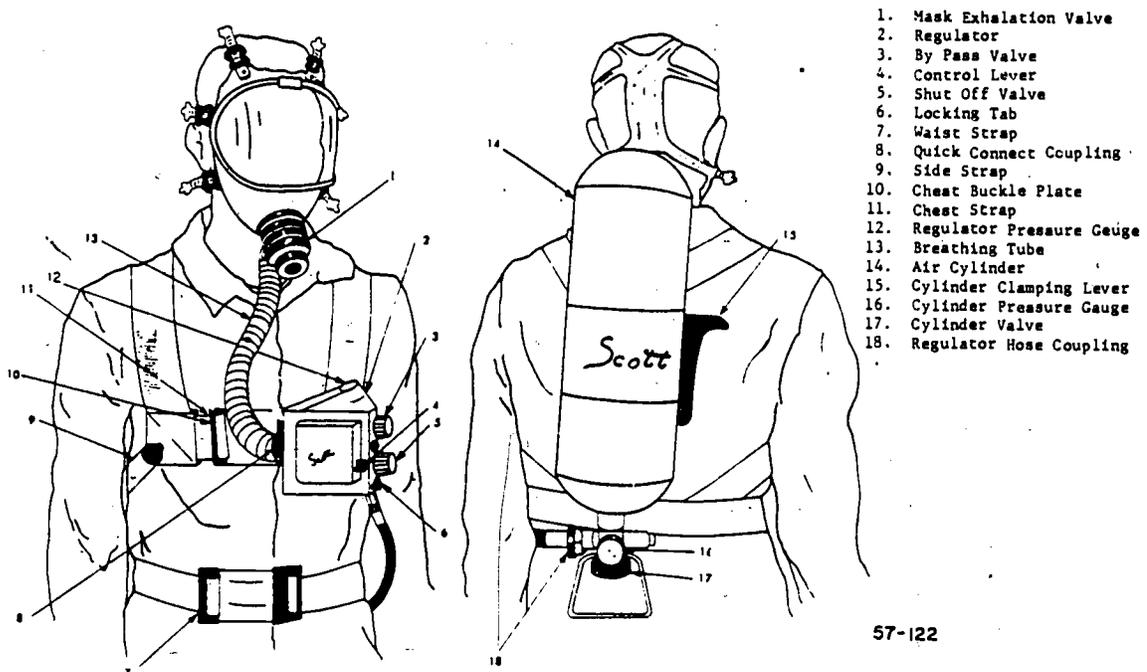

Figure 3-1. Self-contained breathing apparatus components.
This type of self-contained breathing apparatus provides safe breathing air to the user in toxic atmospheres, regardless of the concentration of toxin. It also supplies safe breathing air in an oxygen-deficient atmosphere. The apparatus (see fig. 3-1) consists of mask exhalation valve, chest strap, breathing tube, quick connect coupling, waist belt, side strap, locking tab, regulator shutoff valve, control lever, emergency bypass valve, regulator, regulator pressure gauge, regulator hose coupling, cylinder valve, cylinder pressure gauge, cylinder clamping lever, chest buckle plate, and the air cylinder itself. These components are common to all AF breathing apparatus and will vary in size and shape between makes and models.
1800 psi, it must be recharged. The pressure should never be higher than 1980 psi if the person charging the cylinder follows the charging instructions. When the cylinder meets this requirement, be sure that the cylinder valve (see fig. 3-3) is closed. If the valve is open, turn the handle clockwise to close it. Then release the pressure in the cylinder-to-regulator hose by opening the regulator bypass valve. (See fig. 3-1, item 3.) Close the bypass valve finger-tight after all the air has been bled off. Then check the regulator shutoff valve (fig. 3-1, item 5) to see that it is fully open and in the LOCKED position.
The regulator (fig. 3-1, item 2) of the compressed-air breathing apparatus is used to reduce the pressure of the air coming from the cylinder to a usable pressure at the facepiece. The demand-type regulator will not allow air to flow through the regulator until a slight vacuum is caused by the wearer's inhaling with the facepiece securely in place over his face. The regulator shutoff valve of the apparatus is usually in the LOCKED OPEN position for immediate use. The gage on the regulator (fig. 3-1, item 12) indicates how
Inspect the exhalation valve (fig. 3-1, item 1) for damage, obstructions, and test by operation as shown in figure 3-4.
Cylinder. Inspect the cylinder and related parts for damage and security. (See fig. 3-1, items 14, 15, 16, 17, and 18.)
Harness. Check the harness and backplate for condition, paying special attention to buckles/fastening devices. (See fig. 3-1, items 7, 9, 10, and 11.)